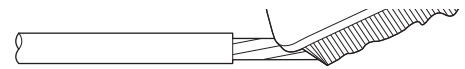

Figure 8
5. Thoroughly wire brush bare conductor to break up oxides (Figure 8).